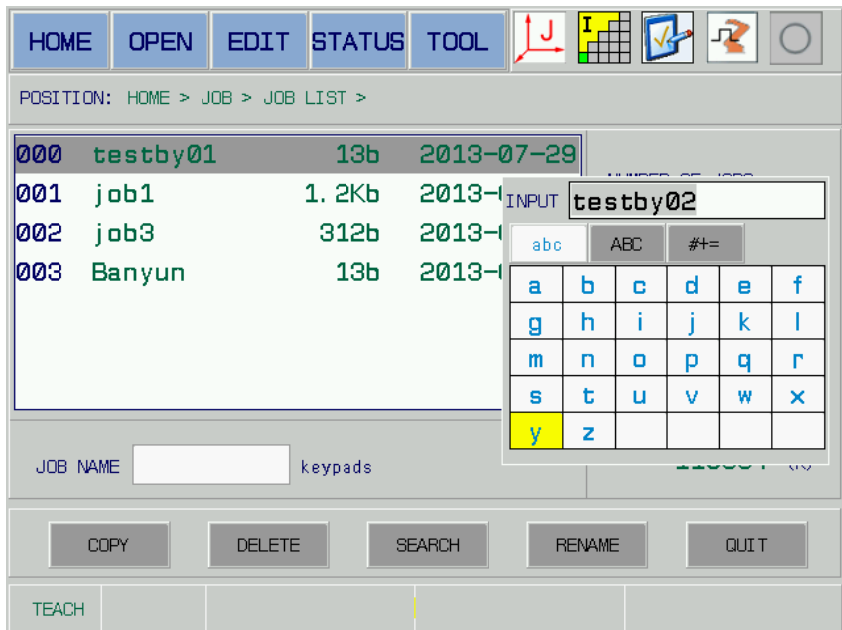

Fig. 5-19
2. Select the program to be renamed by up/down direction button, shift the cursor to the input frame area by [TAB], then enter the soft keyboard input page matching with the [SELECT], lastly input the new program name. Rename the program name “testby01” into “testby02”; refer to the Fig. 5-19.